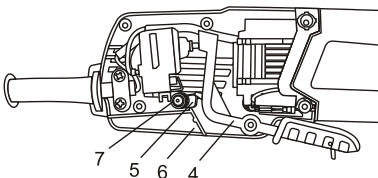

Fig. 9
6. Remove the switch paddle arm (4) by lifting it upward (Fig. 9).
7. Remove the lock-on button (5) by lifting it out of the left half of the handle (6).
- NOTE:** Be careful not to lose the spring (7) that is on the lock-off button.